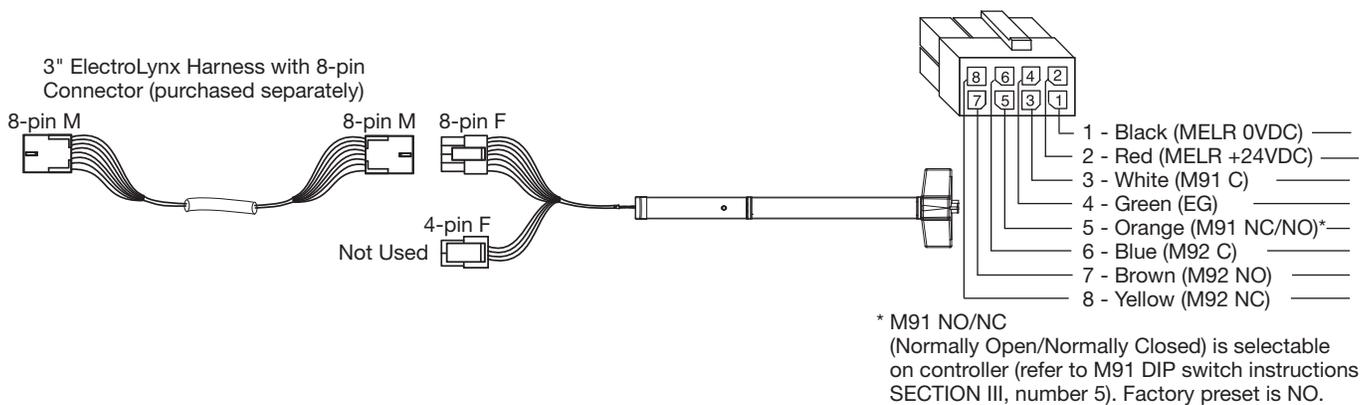

Figure 7 — ElectroLynx Power Mode Wiring
B. Connect the ElectroLynx harness in the door (**Figure 7**):
Earth Ground is required for Electrostatic Discharge (ESD) protection unless the metal door and frame are already earth grounded; otherwise, earth ground wiring is required at pin 4 (**Figure 7**).